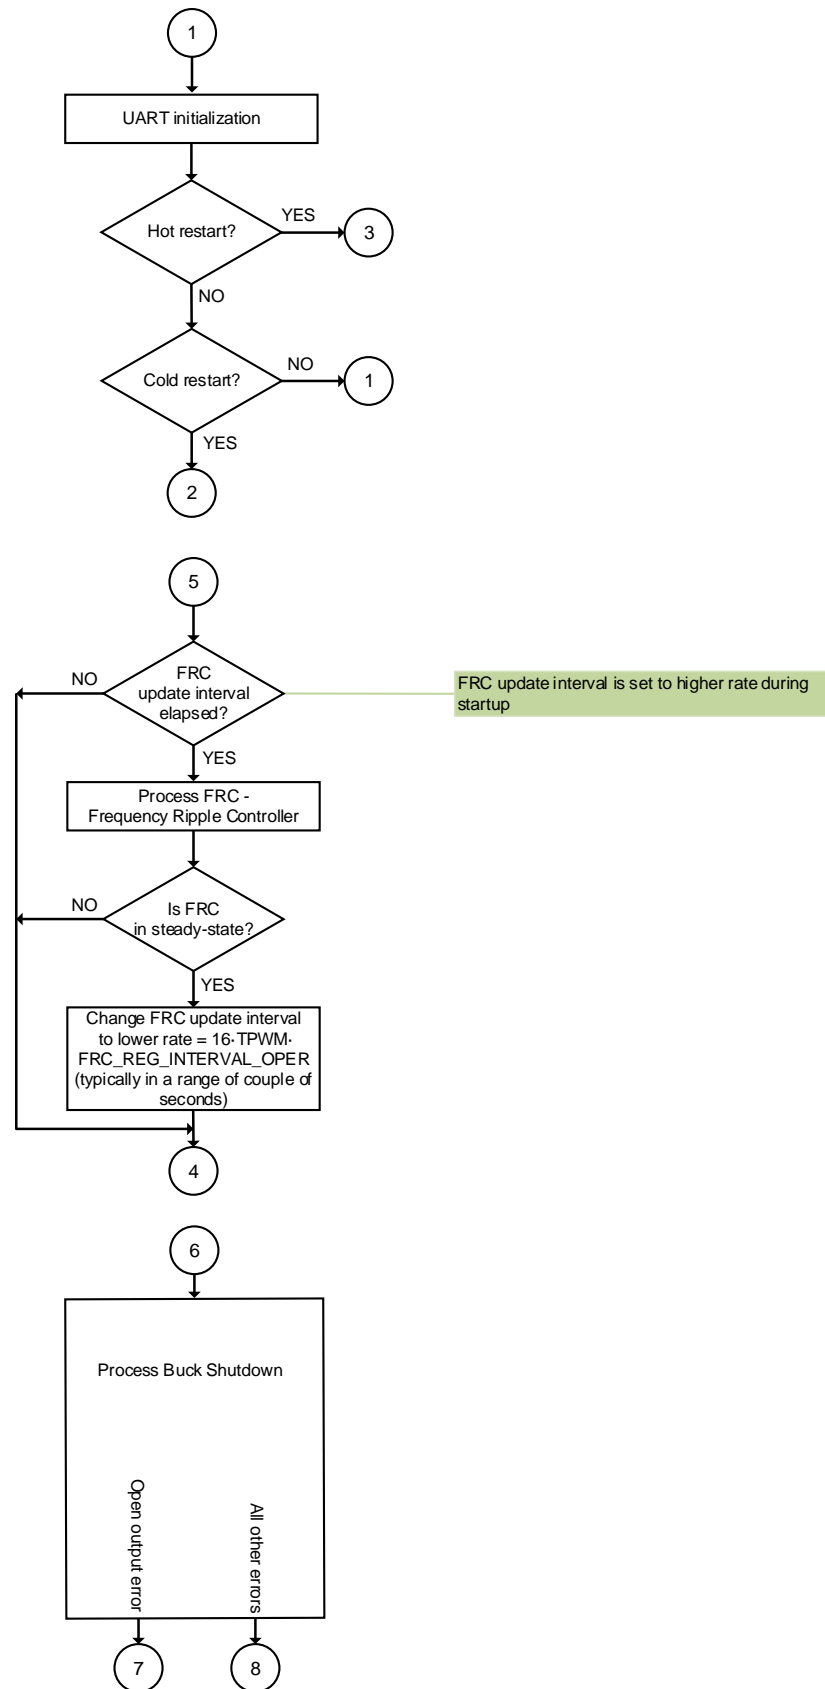
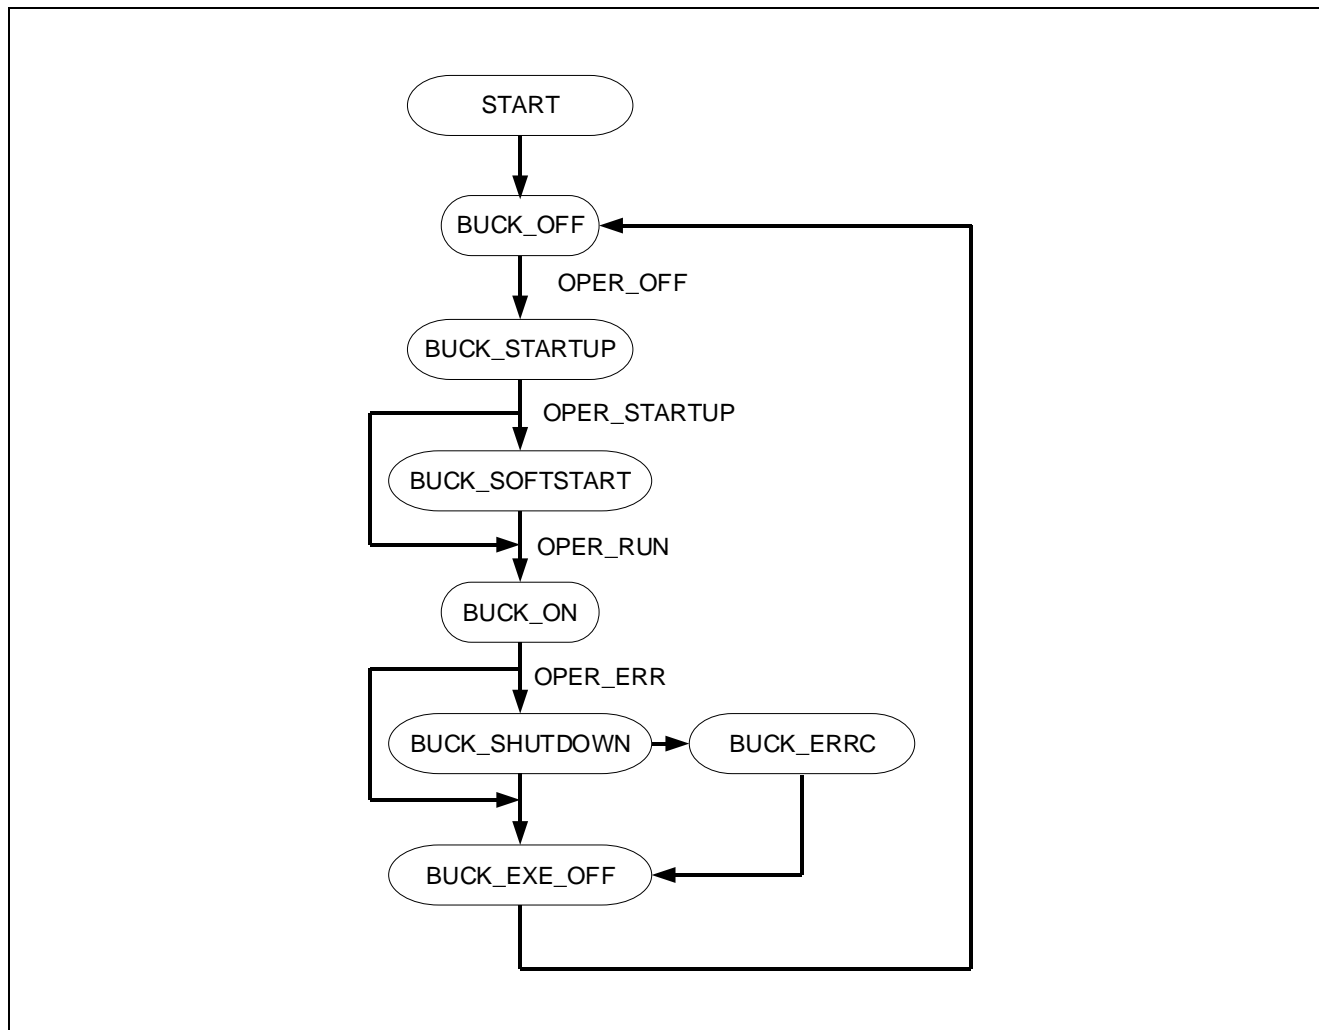

Figure 4. Device Operating Flowchart
Figure 5. Buck State Machine
The ILD2111 is a high-performance digital microcontroller-based DC/DC buck LED controller designed as a constant current source with hysteretic output current regulation. The controller typically uses a floating buck topology operating in a Continuous Conduction Mode (CCM). In order to reduce switching losses and increase efficiency, as well as to control the switching frequency over a wide variety of external component values, input voltage and load variations, a frequency ripple control is introduced. Both internal and external temperature measurements are implemented and accompanied with an intelligent temperature protection algorithm with two threshold values. The controller utilizes a variety of protection features, including overpower, open and short load conditions. The ILD2111 is a dimmable device controlled by an external PWM signal. The device can be parameterized by means of a single pin UART interface at the REF/SC pin (see Section 3.9). A complete top-level device operation process, including protection and error handling, is shown in Figure 4. Table 3-1 shows device operating statuses, buck statuses associated with the buck state machine, as well as error and associated error codes. The buck state machine diagram is shown in Figure 5.
1) See buck state machine in Figure 5.